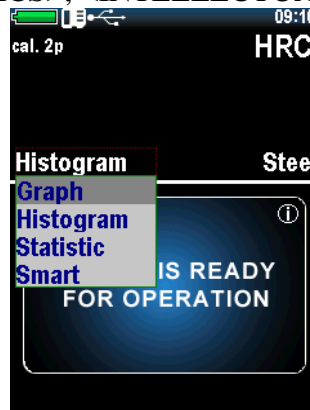

Figure 2.8 - Selecting the metering mode
7. Select a desired measurement mode (see. P. 2.3.6), using **<MODE>** open mode selection menu (fig. 2.8), using keys **<↑>** and **<↓>** select the needed mode (<GRAPH>, <HISTOGRAM>, <STATISTICS>, <INTELLECTUAL>, <SIGNAL>).